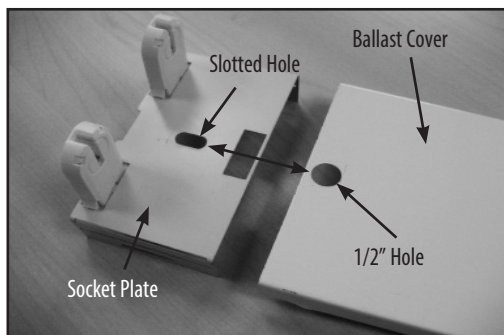

Figure 5: Align the slotted hole on the left-side Socket Plate to the 1/2" hole on the Ballast Cover.
13. Install the two (2) new Ballast Covers or the "White" or "Specular" Reflectors. Installation of each Ballast Cover or Reflector requires two (2) 1/4 Turn Retainer Clips. At each end of the Ballast Cover or Reflector there is a 1/2" (12.7mm) round hole. Start at the one side of the fixture housing, place the 1/2" hole on the Ballast Cover over the slotted hole on the end socket plate, insert one (1) 1/4 Turn Retainer Clip through the Ballast Cover and socket plate holes, then rotate the Retainer Clip one quarter turn to attach the Ballast Cover or Reflector. See Figures 5 and 5a. Follow the same procedure on the opposite end of the Ballast Cover or Reflector.